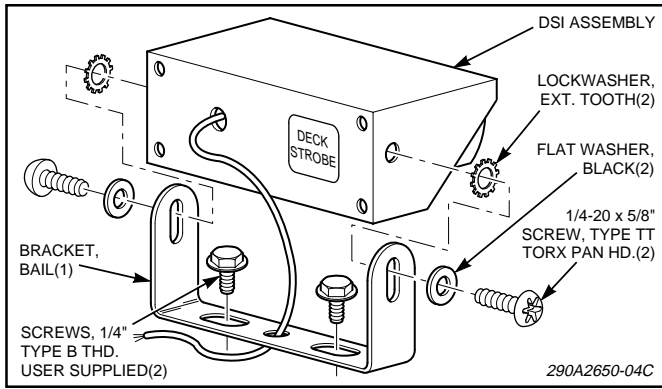
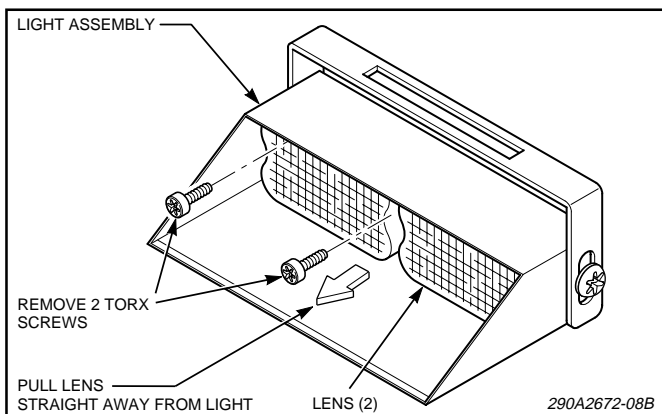

Figure 1.
Figure 6.
a. See figure 1. Use the mounting bracket(s) as a template and scribe the mounting hole position marks and a cable exit hole position mark on the mounting surface.
d. Secure the light assembly to the mounting bracket(s) using the 1/4" x 5/8" pan head Tapite screws and lockwashers as shown in figure 1. Route the cable through the previously drilled cable hole.
2. Remove and retain the two screws and lockwashers which secure the light assembly to the mounting bracket (see figure 1). Remove and retain the two screws which secure the lens (see figure 6), and carefully pull the lens straight away from the light assembly.